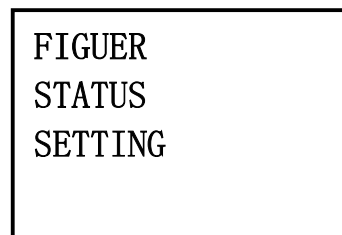

Fig.3: Main menu
- 3) Press the ENT button, it will change to main menu, see Fig3,